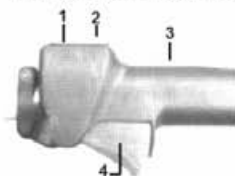

Fig. E9
1. Set the throttle trigger to "fast idle" as follows (Fig.E9)
- Fig.E9